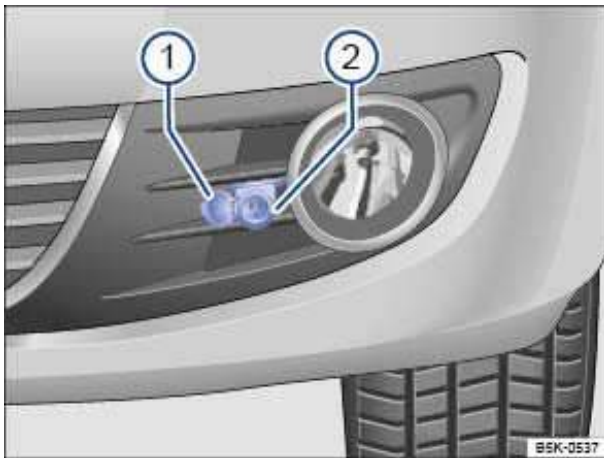

Fig. 128 In the front left bumper: Connection socket 2 for the engine preheating system.
- Open the cover ⇒ fig. 128 \(1\).